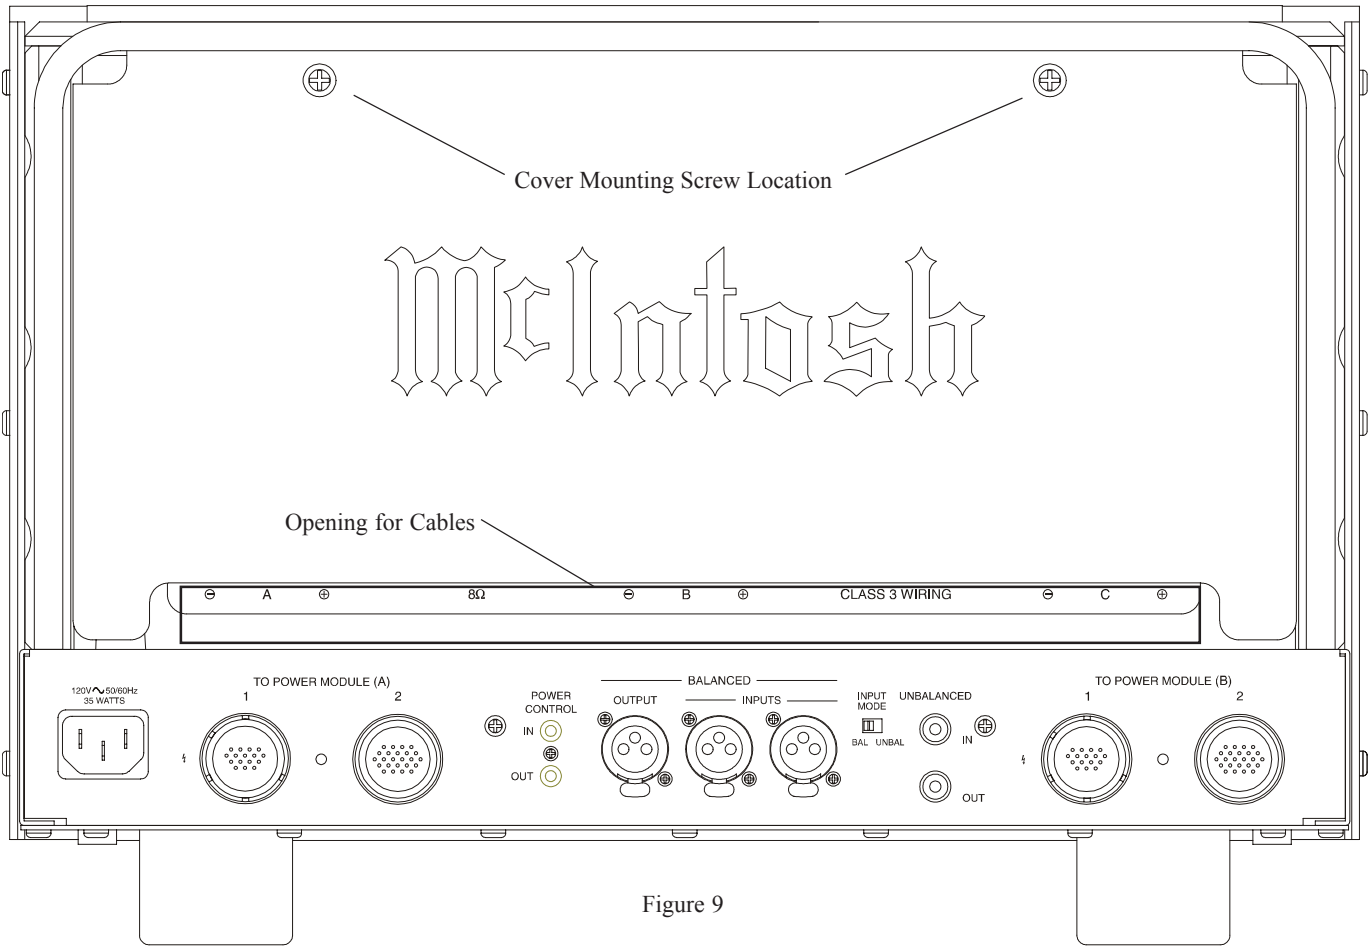

Figure 9
2. Using the supplied “T” shaped tool, remove the two screws from the Rear Cover on the MC2KW Output Module and remove the cover. Place the cover and screws in a safe location. Refer to figures 9 and 10.
Note: The MC2KW Output Module Removable Covers consist of a Rear piece and Top piece. In certain installations the removal of the Top Cover in addition to the Rear Cover might provide easier access to the Output Connection Terminals, refer to figures 9, 10 and 11.
5. Re-attach the previously removed Cover(s) making sure to route the Loudspeaker Cables between the top of the Stainless Steel Chassis and underneath the bottom Rear Cover. Refer to figure 9.